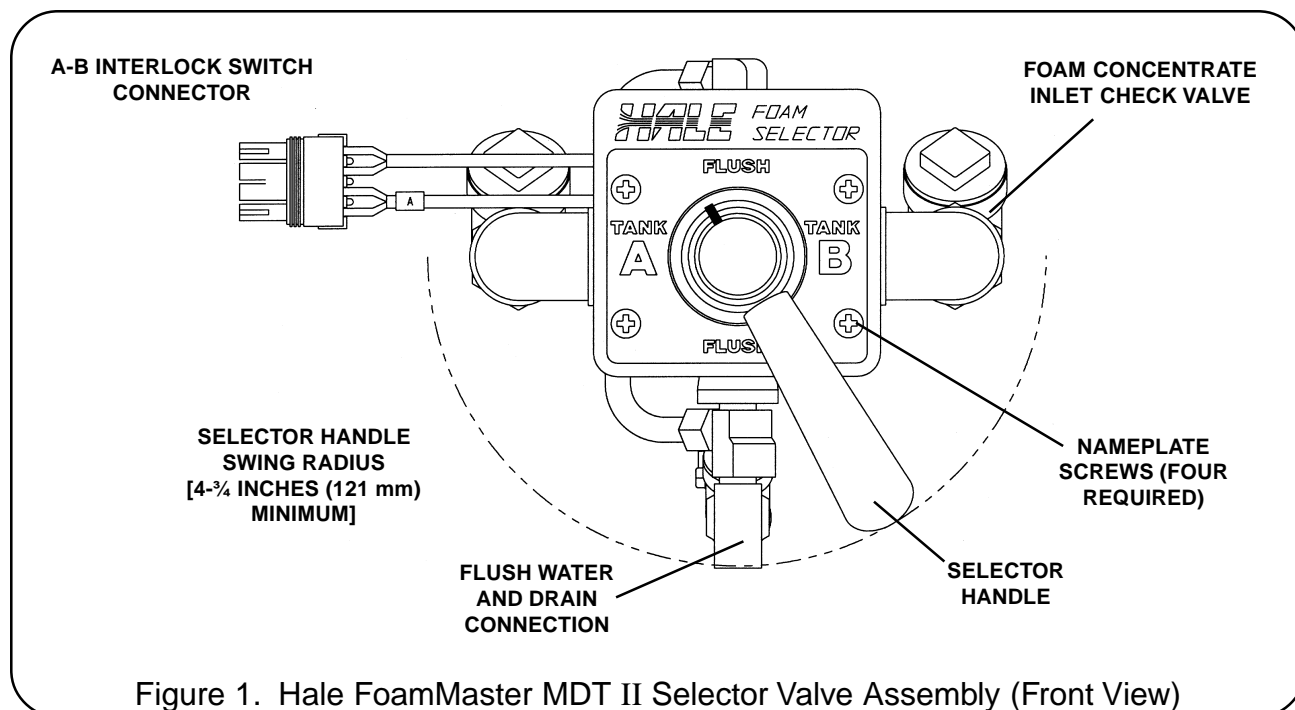

Figure 1. Hale FoamMaster MDT II Selector Valve Assembly (Front View)
Before installing the Hale FoamMaster MDT II thoroughly read the installation instructions contained in this manual. The following notes provide background information to aid in the installation. Refer to Figures 1 and 2 to identify component parts and connections. Figure 3 shows a typical plumbing arrangement.
1. Unscrew and remove the selector handle from the Hale FoamMaster MDT II selector valve handle mount assembly. (See figure 1)